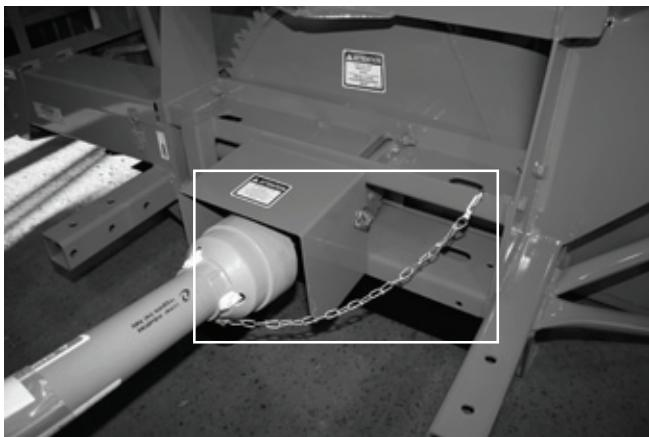

Figure 27
- 4) Install P.T.O. shaft with the shear pin end onto the Snowblower gear box. Then attach safety shield support chain as shown (Fig. 27). **WARNING:** The telescoping tubes of the drive shaft must never be allowed to bottom out while maintaining a minimum overlap of 6 inches.